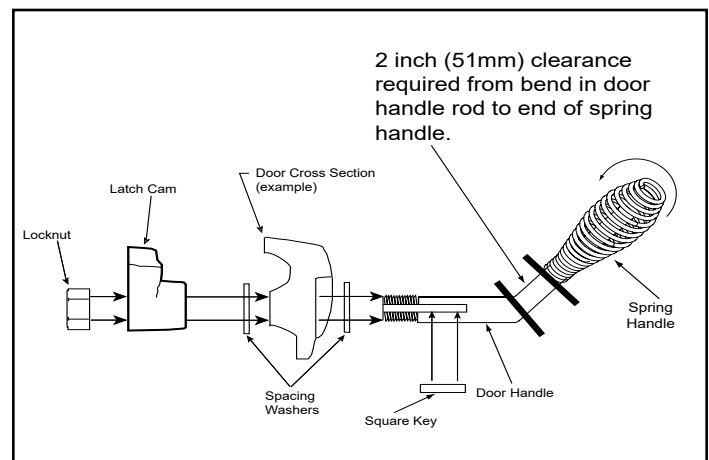

Figure 22.2
3. Install second washer(s) as shown in **Figure 22.2**.
7. Install spring handle turning in a counter-clockwise motion to **required** 2 inch (51mm) clearance location on door handle rod (**Figure 22.2**).